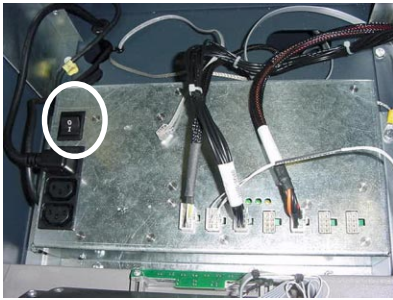

Figure 1. Power switch on left side of power module.
1. Refer to Figure 1. Unlock and open the control panel. Verify that the power switch is in the OFF (0) position. Close the control panel.